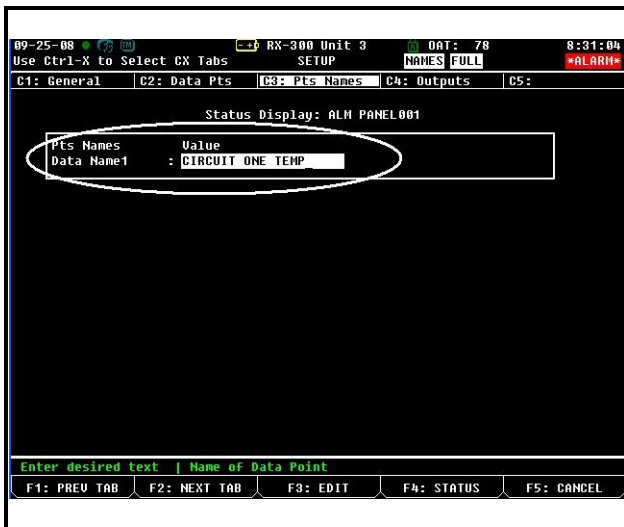

Figure 6-3 - Entering a Data Point Name
5. Go to the **Pts Names** tab and enter a name for the data point (Figure 6-3).